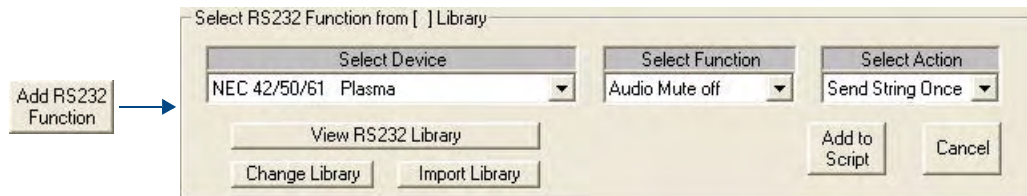

FIG. 30 Select RS232 Function window
2. Click the **Add RS232 Function** button in the Command Bar to invoke the *Select RS232 Function* window, indicating the currently selected RS232 Library (FIG. 30).
1. Click the **Add New Function** Command Bar button (see FIG. 30 on page 50). This opens the *AMX RS232 Libraries* dialog.
1. Click the **Add IR Function** button in the Command Bar to invoke the *Select IR Function* window, indicating the currently selected IR Library (FIG. 30).